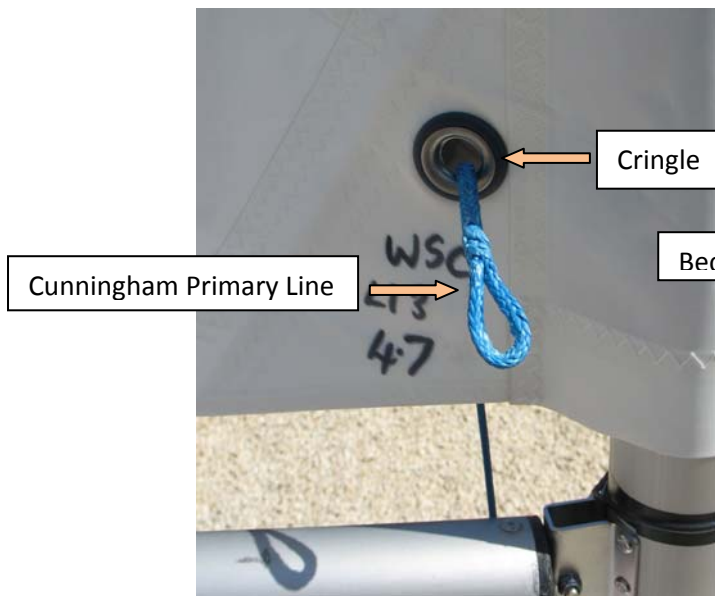

Figure 1
- b) Unloop the becket block from the end of the primary rope by passing the loop over the block and pass the rope through the cringle so the loop is on the starboard side of the sail (figure 1) and then loop the becket block back on to the loop as shown below (figures 2, 3 & 4).